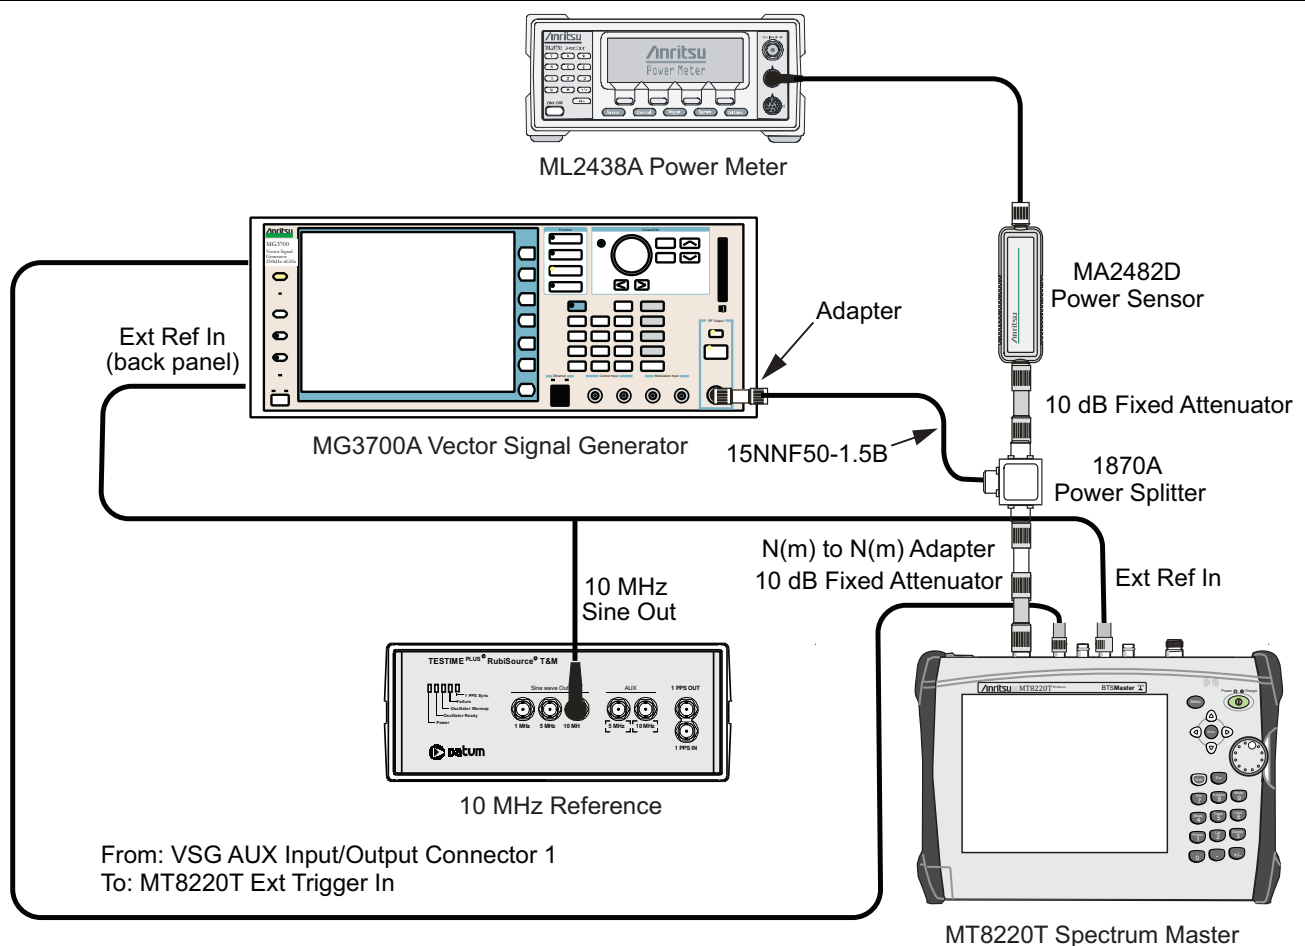

Figure 6-5. TDSCDMA Signal Analyzer Verification, Test Setup
2. Connect the equipment as shown in Figure 6-5.